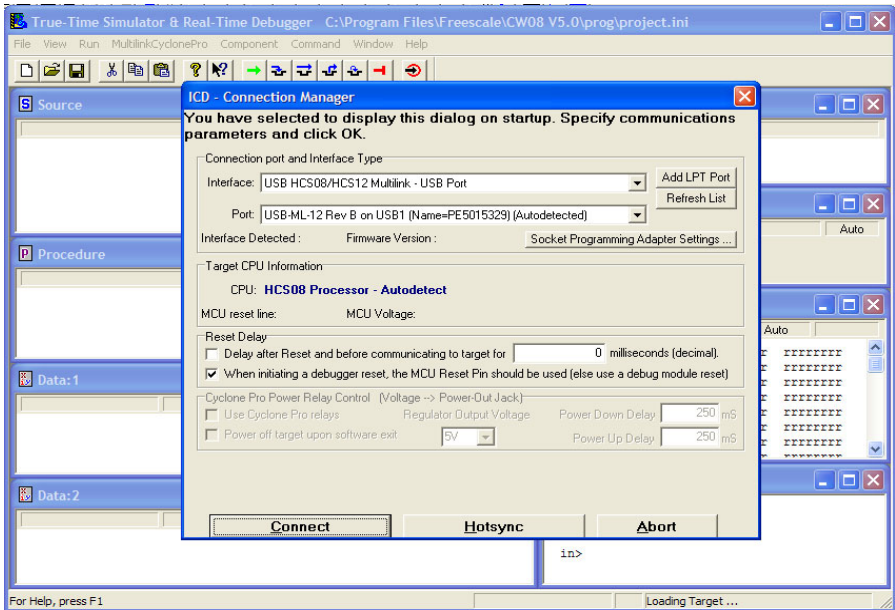

Figure 22. Establishing Communication Between the BDM and the Board
1. Launch HiWave. The HiWave main window appears as shown in Figure 22.